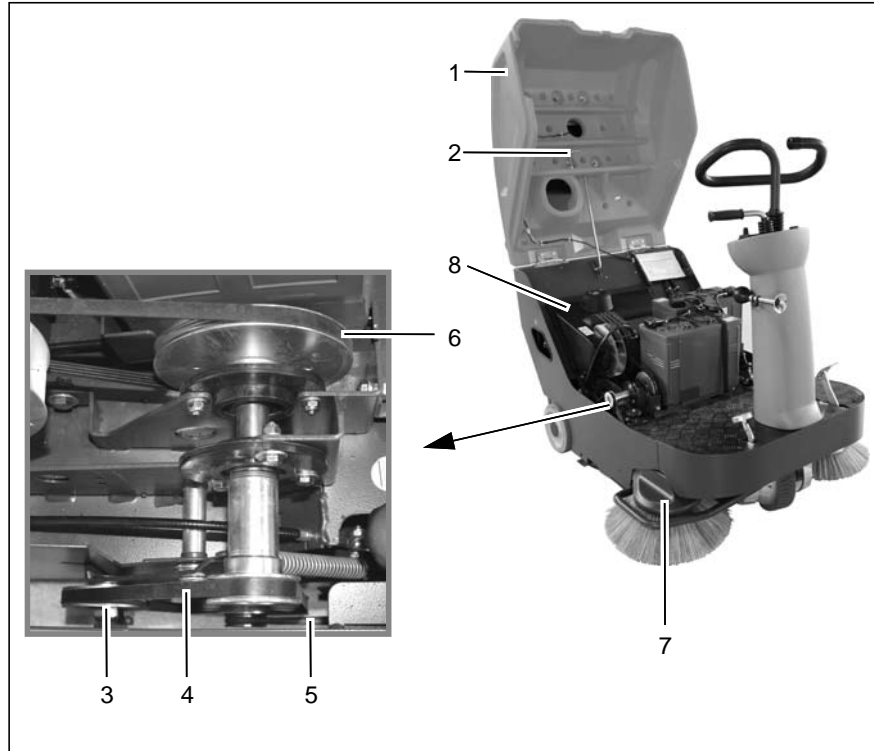

Fig. 25
2. Open the seat console (Fig. 25/1) and secure with the safety support (Fig. 25/2).
3. Loosen the tension roller (Fig. 25/3) and change the drive belt (Fig. 25/4) for the cylindrical broom.
4. Tension the drive belt again using the tension roller (Fig. 25/3).
To access the drive belt of the side broom (Fig. 25/5), disassemble the cover (Fig. 25/7).
To access the drive belt of the suction turbine (Fig. 25/6), disassemble the panel (Fig. 25/8) of the panel air filter.